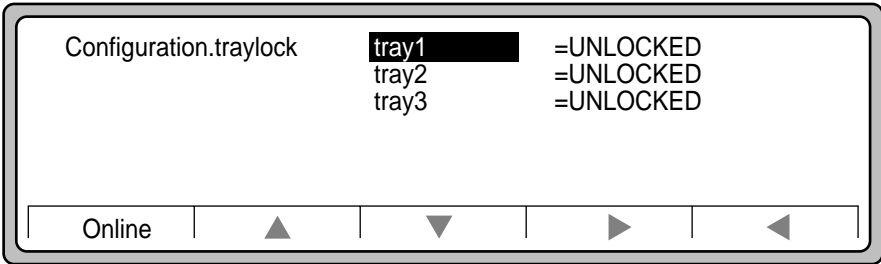

Figure 3-28 Configuration.traylock
- 6. Press ▲ or ▼ to move to the tray to lock (Figure 3-28).